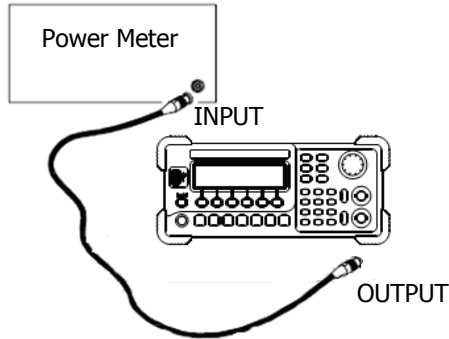

Figure 3-6 Output Flatness Adjustment Connection
1. Connect the power meter and signal generator as shown in Figure 3-6.